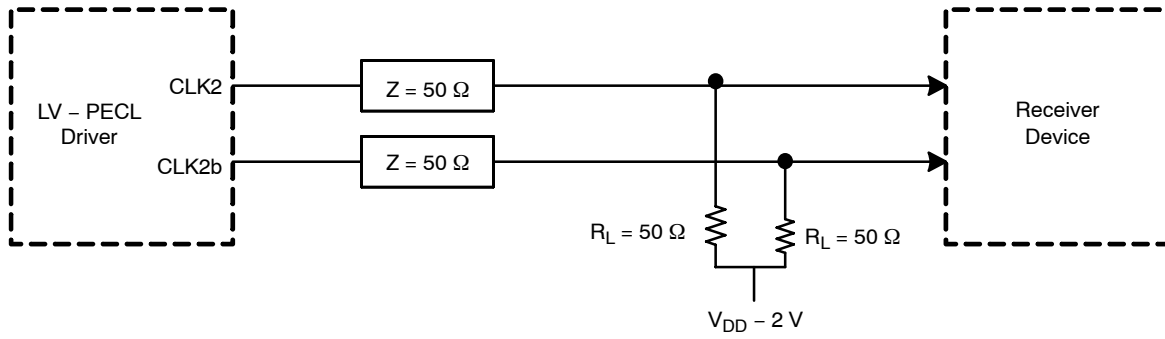

Figure 2. Typical Termination for Output Driver for Device Evaluation
5. Measurement taken with outputs terminated with $50\ \Omega$ to $V_{DD} - 2\text{ V}$. See Figure 2.